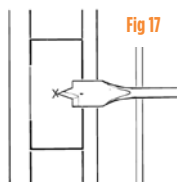

Fig 17 Centre of latch bolt – drill with a spade bit.
- Determine the centre of the latch bolt cavity and mark for drilling with a 22mm (7/8") or 25mm (1") spade bit, drilling just deep enough for the extended latch bolt (Fig 17).